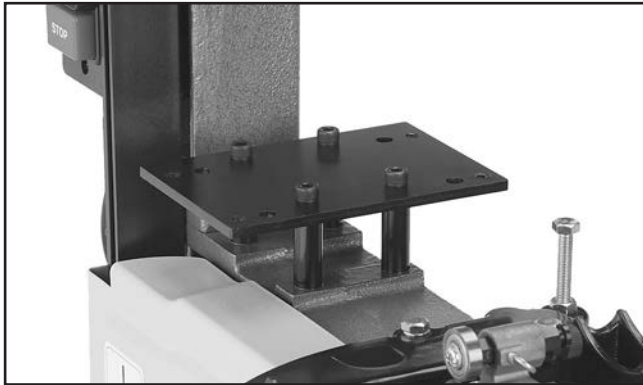

Figure 9. Lever body attached.
- Attach the lever board to the bandsaw body with the four spacers and four M8-1.25 x 60 cap screws, as shown in **Figure 9**.